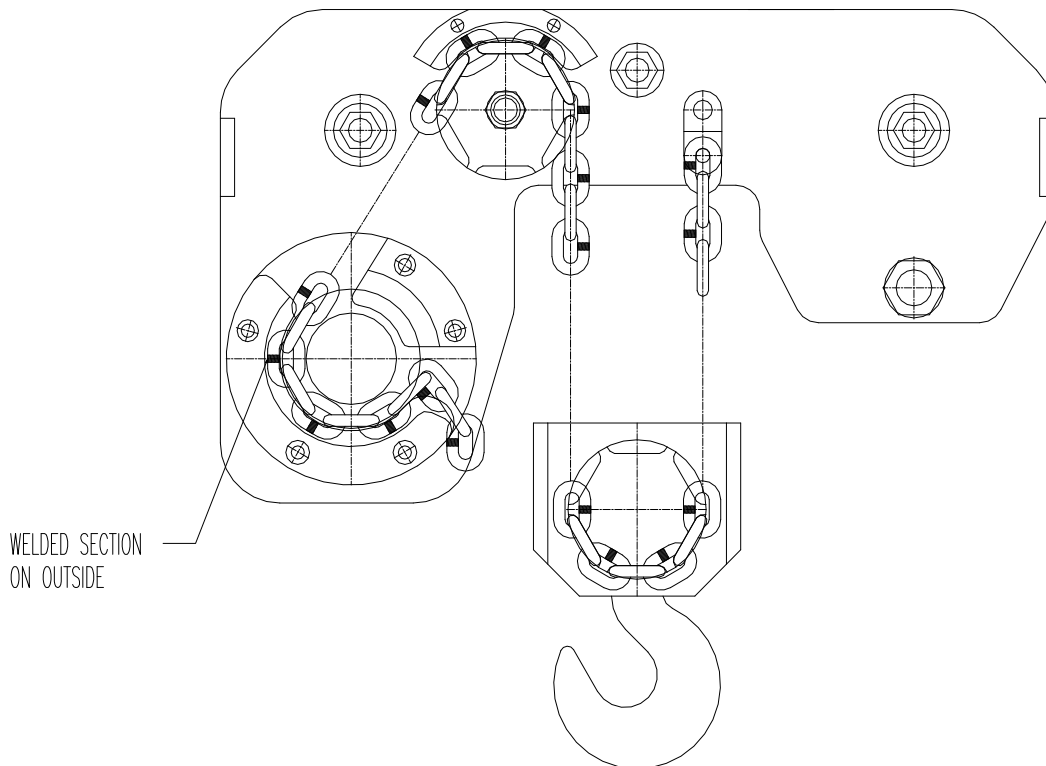

Figure 7. Installation of the Load Chain
7. Pull both pieces of wire so that the second link lies flat in the load sheave pocket. Also ensure that the welded section faces outwards from the load sheave (see Figure 7). Both chains must